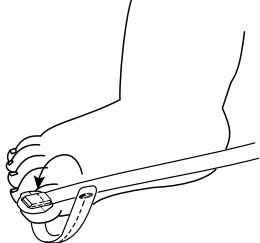

Fig. 3a
2. Refer to **Fig. 3a**. Orient the sensor cable so that it points toward the patient and runs along the top of the foot. Position the emitter cover (white box) over the back of the nail bed with the edge of the tape at the tip of the great toe (not the tip of the nail). Continue to wrap the rest of the sensor around the great toe.